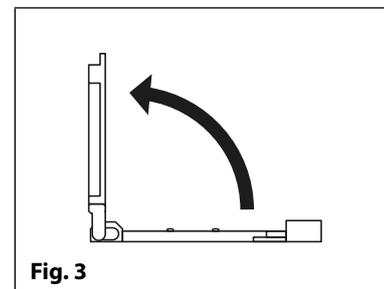

Fig. 3
2. The SIM holder is hinged and will open out to the left, see **Fig.3** (in the case of the GSMVRK and Art. 2270 GSM modules it will open out to the right).